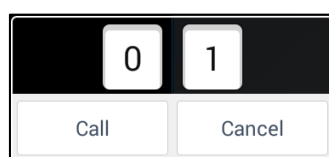

Figure 4.46 Setting a Patrol
1. In the PTZ control mode, click to access the dialog box shown in Figure 4.46.